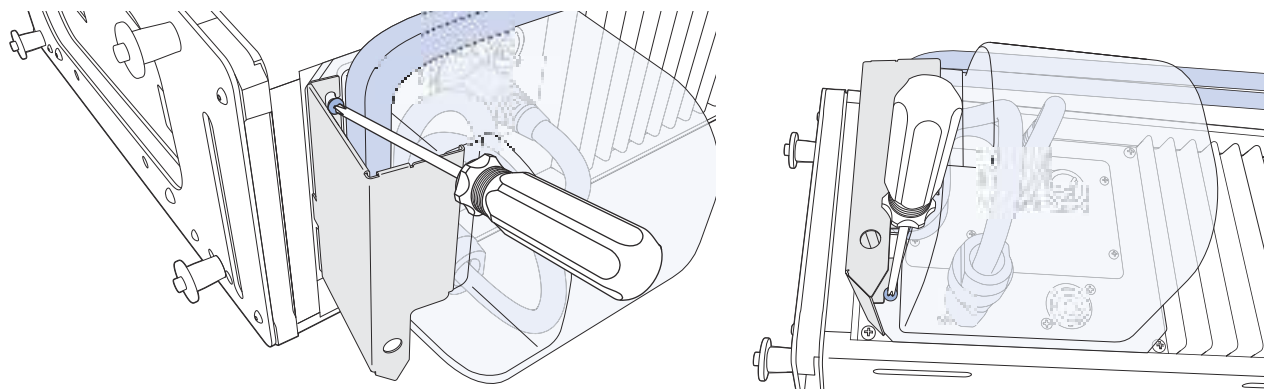

Figure 50: Tightening Screws on Left Side of Rain Hood
7. Tighten the upper and lower screws on the left side of the rain hood (Figure 50). The recommended torque value for all four screws is 10–12 in-lbs (1.1–1.4 N·m).